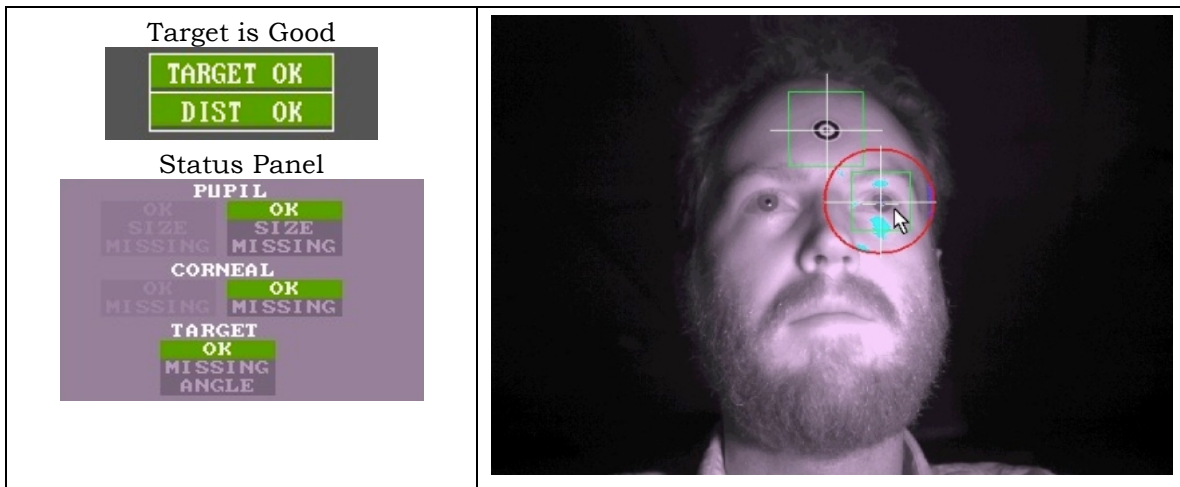

Figure 3-7: EyeLink Remote Target Placement
- 7) Place a target sticker on the participant's forehead (see Figure 3-7). This small target sticker allows tracking of head position even when the pupil image is lost (i.e., during blinks or sudden movements). Ideally, it should be just above the eyebrow of the tracked eye or on the forehead between the two eyes. If the target sticker is placed too much towards the temporal side
of the forehead (see bottom panel of Figure 3-7), the tracker may report an ANGLE error in the status panel when the participant rotates the head in the direction of the sticker.